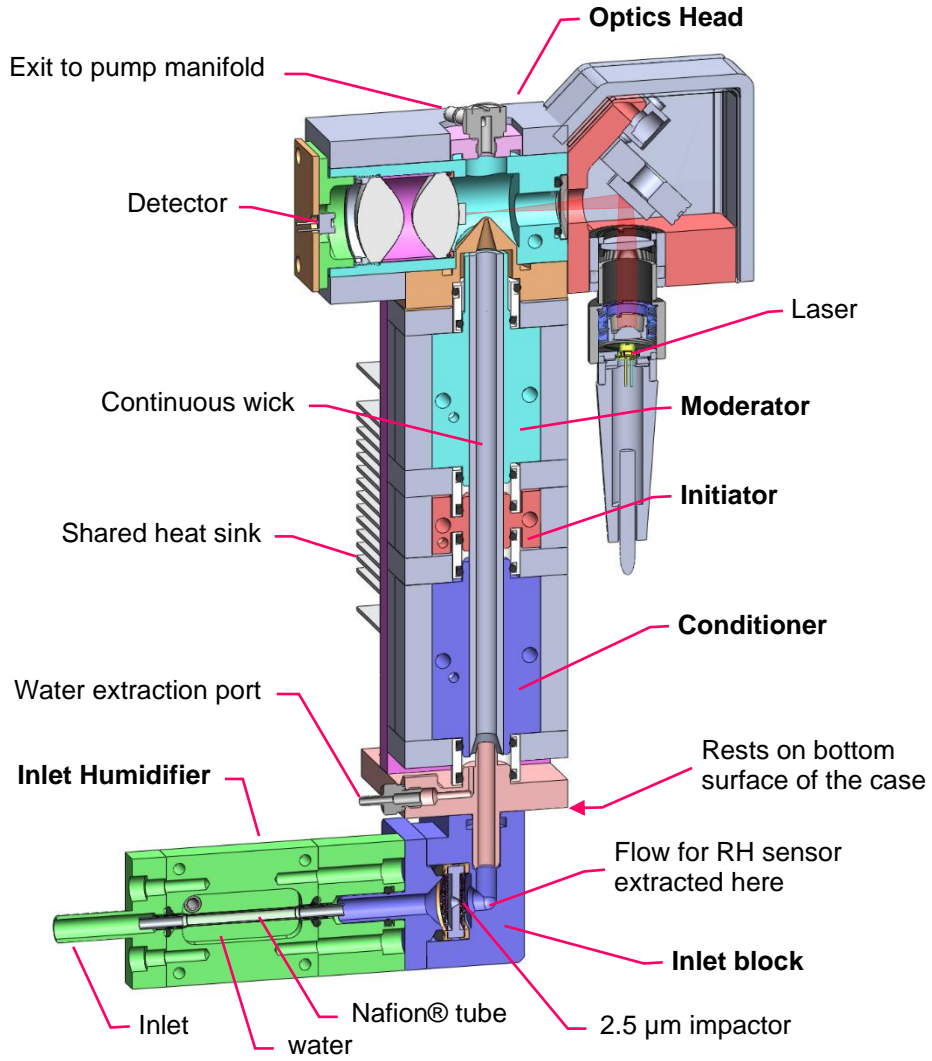

Figure 1: Diagram showing Inlet Humidifier, Growth Tube, and Optics Head.
The MAGIC™ CPC system is shown in Figure 1. Components are: (1) an Inlet Humidifier; (2) Inlet Block, which includes a pre-cut; (3) growth tube for condensationally enlarging ambient particles; (4) droplet detection optics; (5) particle counting and control electronics; and (6) an internal manifold containing a pump and flow metering orifices.
(1) Inlet Humidifier: The Inlet Humidifier is mounted on the inlet to increase the inlet humidity. The Inlet Humidifier consists of a 2.7 cm length of Nafion® membrane tubing, surrounded by water, which partially humidifies the incoming airstream, and allows for at least seven days of operation. The Inlet Humidifier's water reserve is a bottle on the back of the unit.
(2) Inlet Block: Preceding the growth tube is the inlet block, which contains a 2.5 µm pre-cut and a port allowing the unit to monitor the sample relative humidity (RH). Tubing leads from this port to a valved quick-disconnect plug in the base of the case. The flow carried in this path is approximately 100 cm³/min and is carried to the RH sensor in the internal manifold. If the plug is disconnected, the RH sensor will pull from the empty socket, and a valve in the plug closes to isolate the Inlet Block. In this configuration, the inlet flow should equal that displayed in the data record.
(3) Growth Tube: The growth tube consists of a single, wet-walled channel with three temperature regions: a cool conditioner; a warm initiator; and a cool moderator. The wetted walls are provided by a continuous wick that spans all three temperature stages. The wick is formed from rolled membrane filter media (Durapore DVPP). The temperatures of each region are maintained by individual thermo-electric devices (TEDs) that share a common heat sink. The heat sink is cooled by ducted case ventilation.
(4) *Optics:* Droplets formed in the growth tube pass through a nozzle and are detected in the optics head. This is a forward-scattering architecture, with a folded path for the input laser beam, as shown in Figure 1. The laser is focused at the exit of the nozzle carrying the droplet flow. A collimating lens followed by a cylindrical lens focuses the laser beam, while the position of this assembly relative to the nozzle exit, and the steering by the mirror places the focal point just above the flow nozzle exit. After passing above the nozzle, the incident beam is diverted into a beam dump, and the near-forward scattered light is collected by a pair of condenser lenses onto an avalanche photodetector. Each droplet passing produces a light scattering pulse that is captured by the detector. Typical pulse width is ~1 μ s.